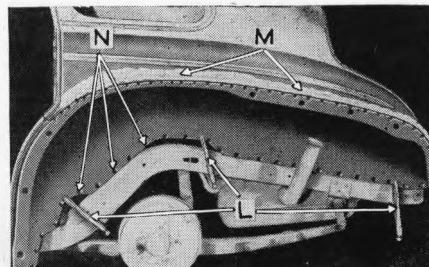

FIG. 10
- Position the wheelhouse in place and hold at the bottom with vise grip pliers or clamps, "L" Fig. 10.
above the wheelhouse, "M" Fig. 10. This will help prevent damage to the painted surface and also localize the heat during welding operations.
12. On the outside of the body, tack weld the lower skirt of the wheelhouse to the strip "K," Fig. 6, as shown at "N," Fig. 10.